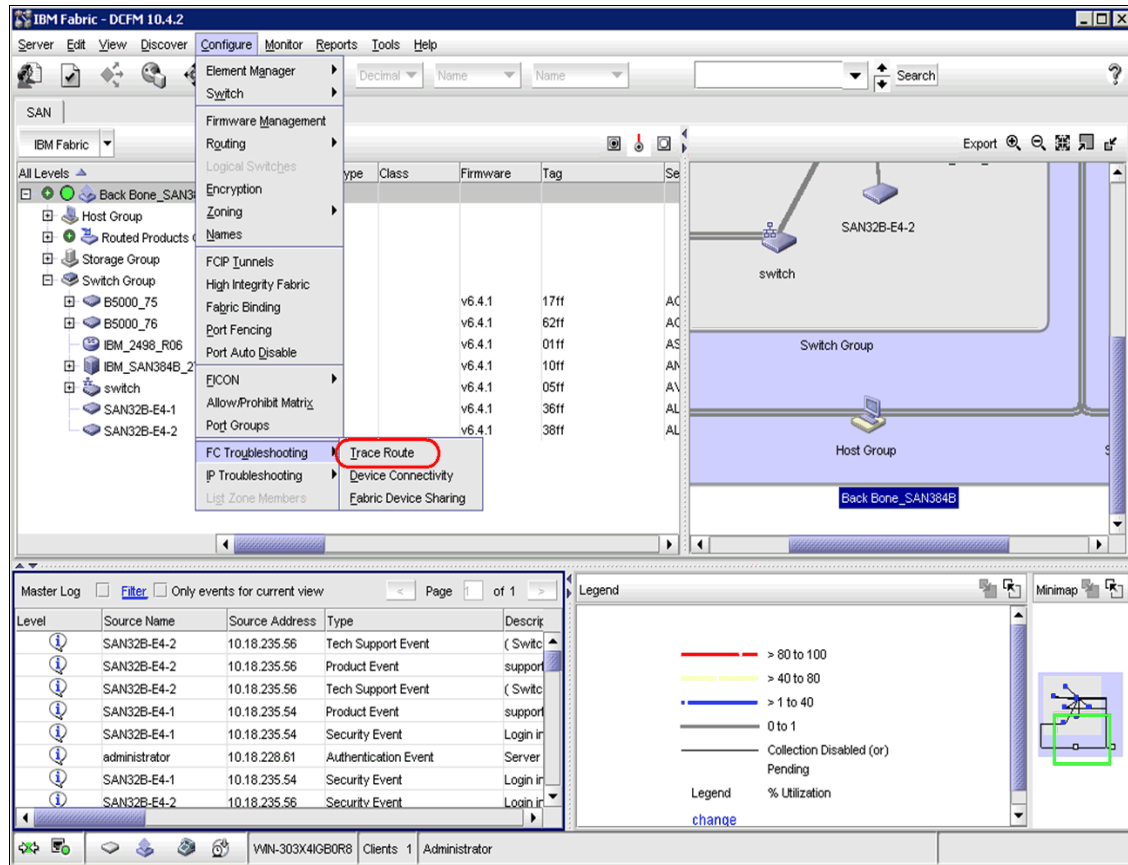

Figure 17-33 Trace route
1. Select **Configure** → **FC Troubleshooting** → **Trace Route**, as shown in Figure 17-33.